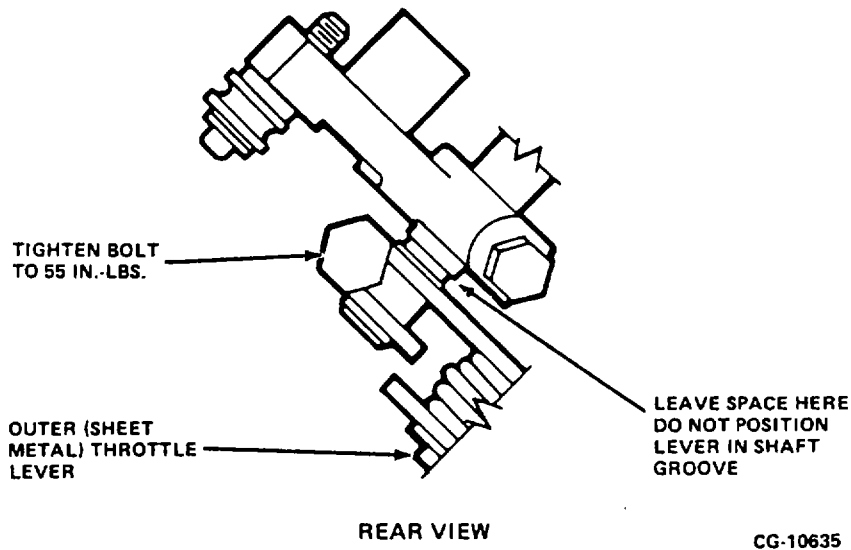

Figure 4c. Inner and Outer Throttle Lever Assembly (Without Bellcrank)
3. Tighten bolts as specified in Figure 4c.